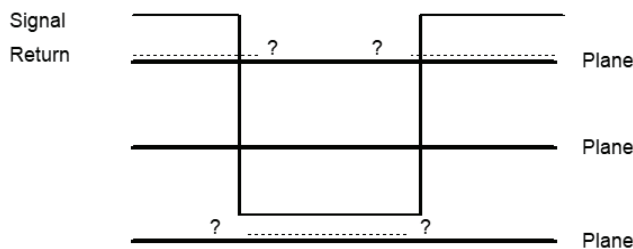

Figure 4.2
4.2.3 Vias: Figure 4.2 illustrates the case of a signal moving from one signal layer to another through a via. It should be clear that the designer needs to be sure that the characteristic impedance of the trace (Z_0) is the same along all segments, otherwise reflections will be caused at the vias. But what about the return signal? If the return signal has to find a circuitous loop between the various planes that are adjacent to the trace, then unacceptable loop areas (and EMI radiation) might result.